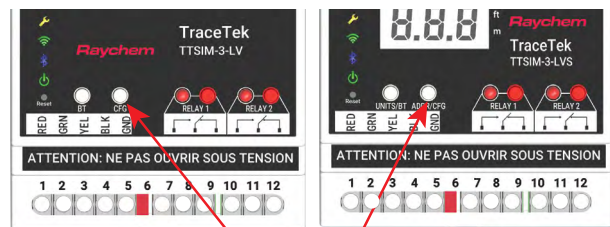

Figure 7a. Configuration Button
- Push the TTSIM-3/4 configuration button for 3 seconds as shown in Figure 7a (it will display CFG on the variants with LCD). The Bluetooth, WiFi, Service and Leak LEDs flash simultaneously during this operation.